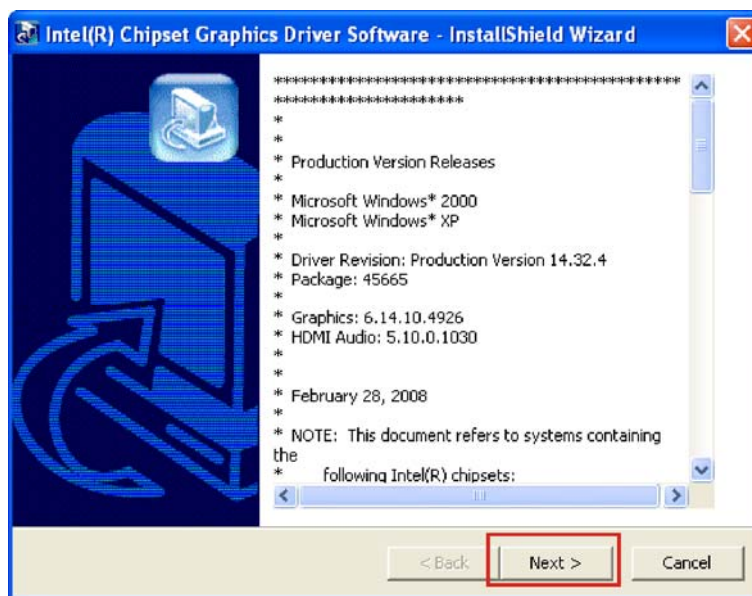

Figure 7-6: VGA Driver Read Me File
Step 18: The VGA Read Me file in Figure 7-6 appears.